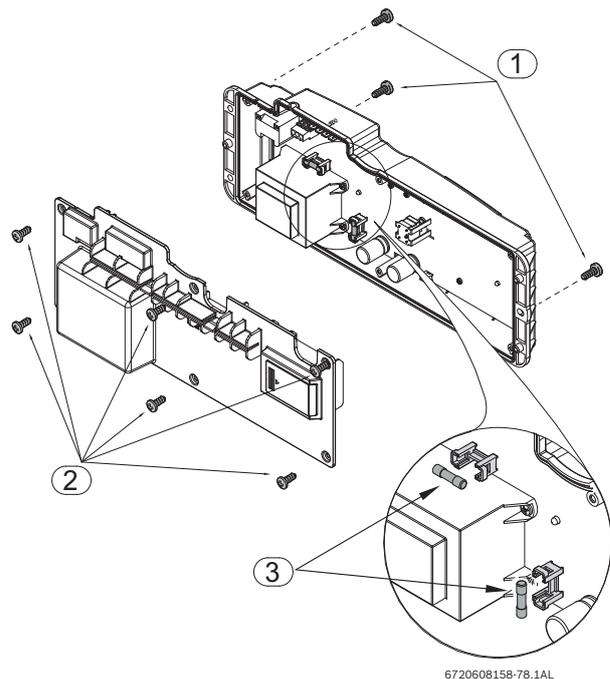

Fig. 47 Fuses position
- ▶ Remove the six screws from the back cover of the control unit, see Fig. 47, pos. 2.
- ▶ Check the fuses on the printed circuit board, see Fig. 47, pos. 3.